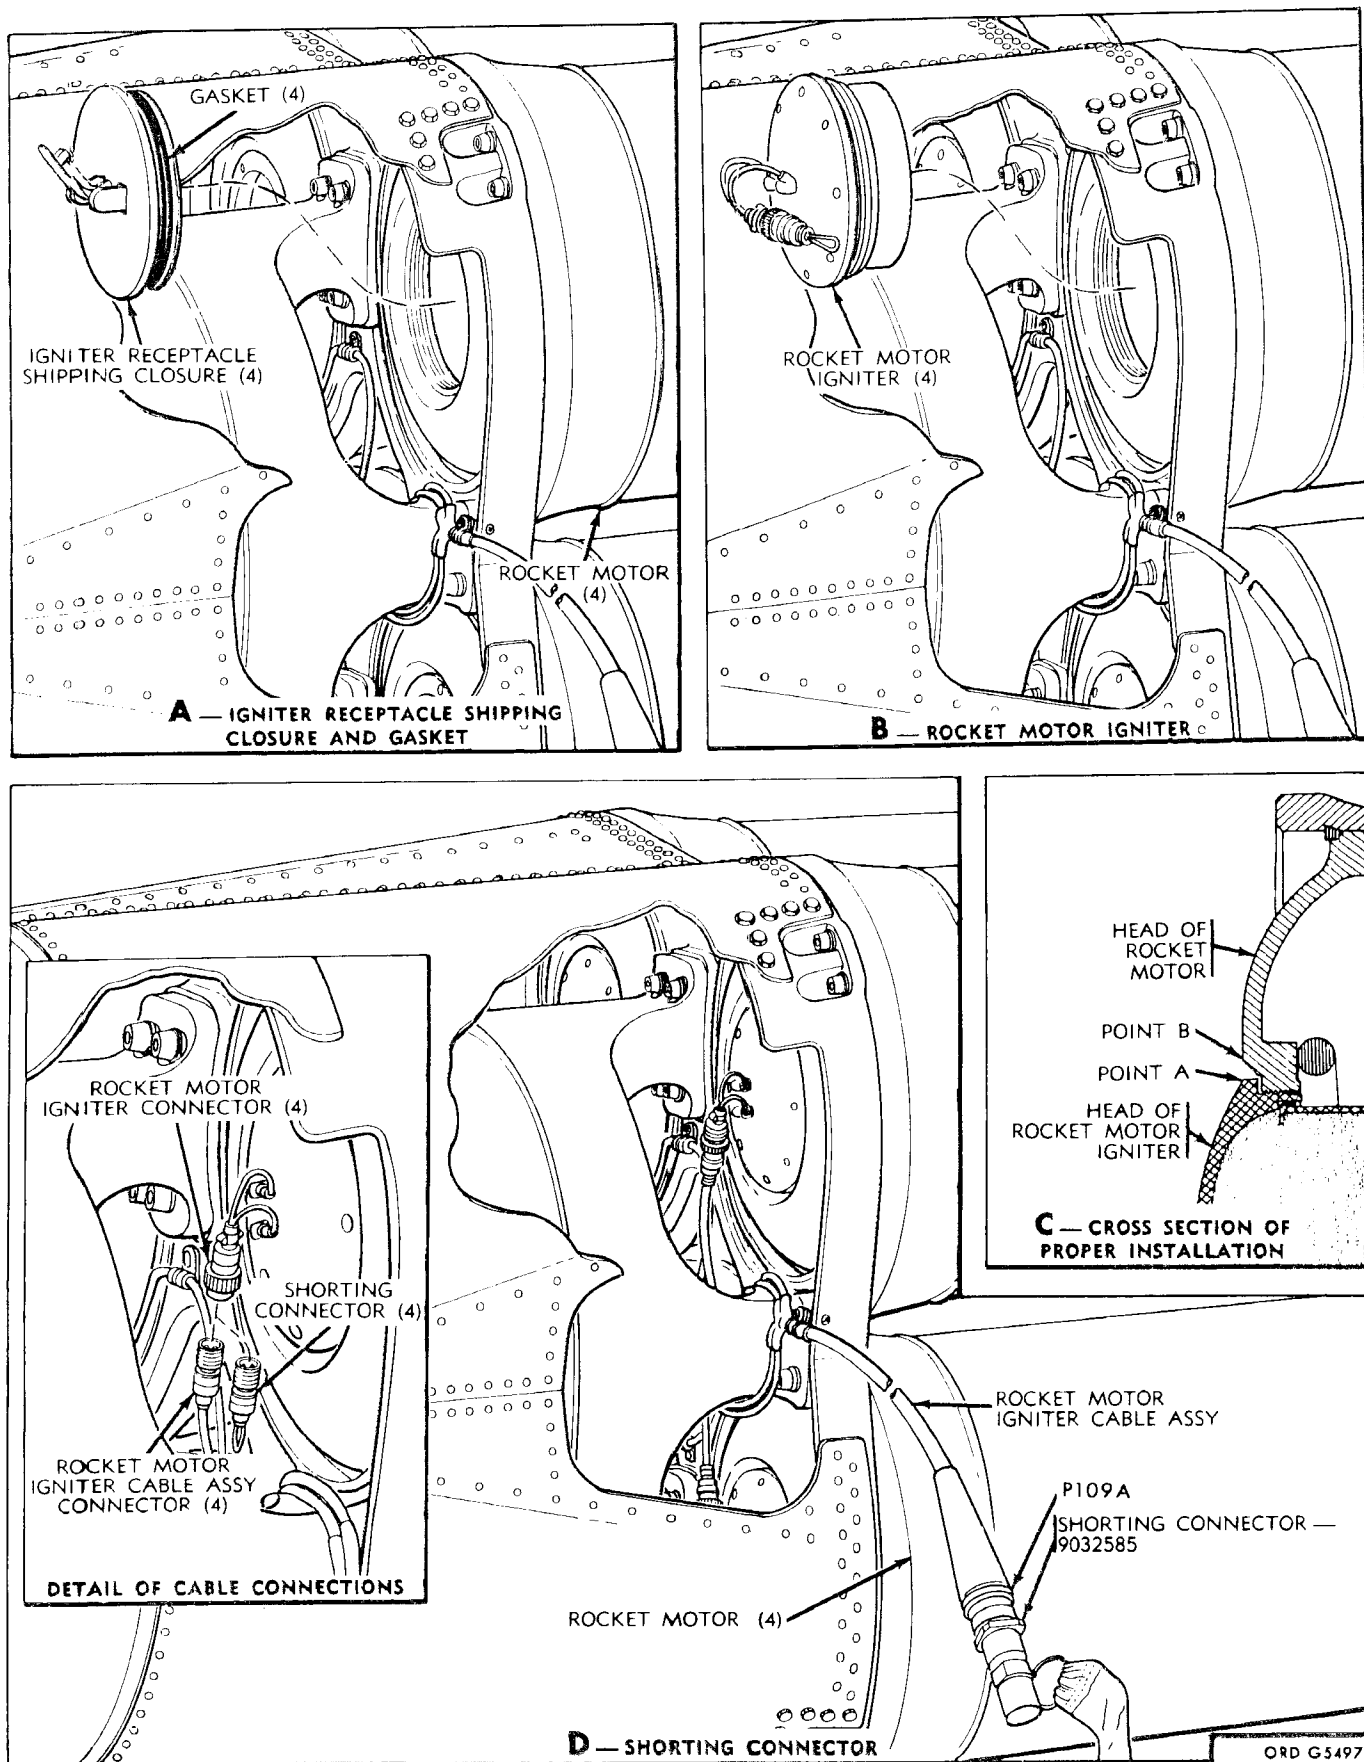

Figure 10-9. Removal and installation of the rocket motor ignitor.
e. Remove the igniter receptacle shipping closure (A, fig. 10-9) and gasket from the rocket motor.